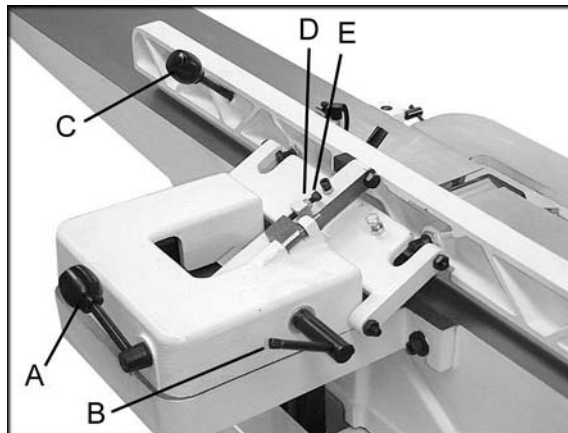

Figure 14
2. Move the fence by releasing lock handle (A, Fig. 14) and pushing the fence assembly until it overlaps the tables.
3. Adjust the fence to a 90° angle by releasing lock handle (B, Fig. 14), pulling up on handle (C, Fig. 14), and re-tightening lock handle (B, Fig. 14).
5. If fence is not square to table, release lock handle (B, Fig. 14), loosen nut (D, Fig. 14), and turn bolt (E, Fig. 14) until fence is square to table.
6. Tighten nut (D, Fig. 14) to retain the setting. Tighten lock handle (B, Fig. 14).